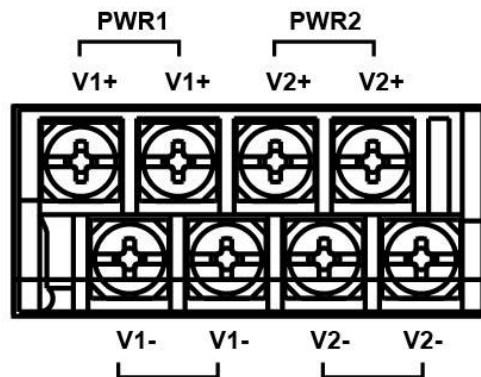

Figure 2.9 - Power Terminal Block Connector
1. Insert the positive and negative wires into the PWR1 (V1+, V1-) and PWR2 (V2+, V2-) contacts on the terminal block connector as shown below in *Figure 2.9*.